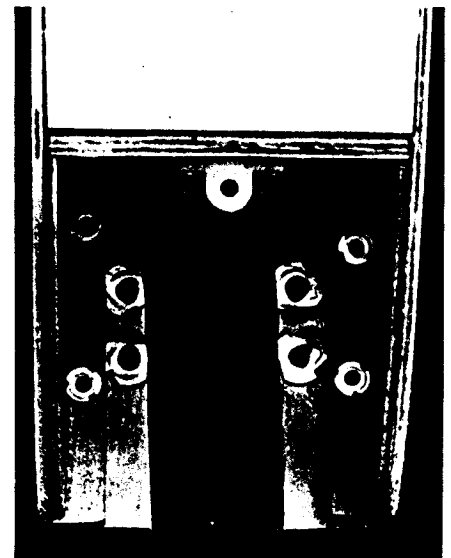

Fig. 9-2. Notice the gap between the fuselage bottom and the fire wall. You'll have to seal it with epoxy to prevent oil from getting into the fuselage.
4) Fire wall/fuselage gap: After you've glued the fuselage together, check to see if there is a gap between the fire wall and the bottom sheeting (see Fig. 9-2). If there is, fill it with epoxy to prevent oil from leaking in when you run the engine.